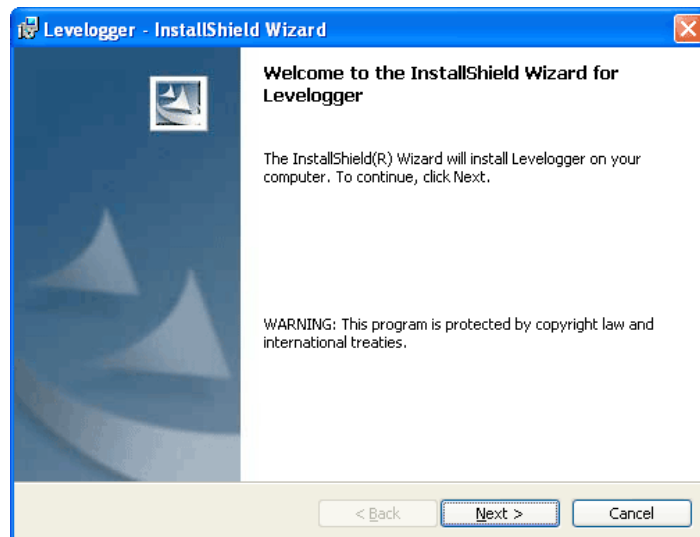

Figure 2-1 Found New Hardware Wizard
3. The Software Installation Wizard will guide you through the remaining installation process. Figure 2-1 shows the Software Installation Wizard.